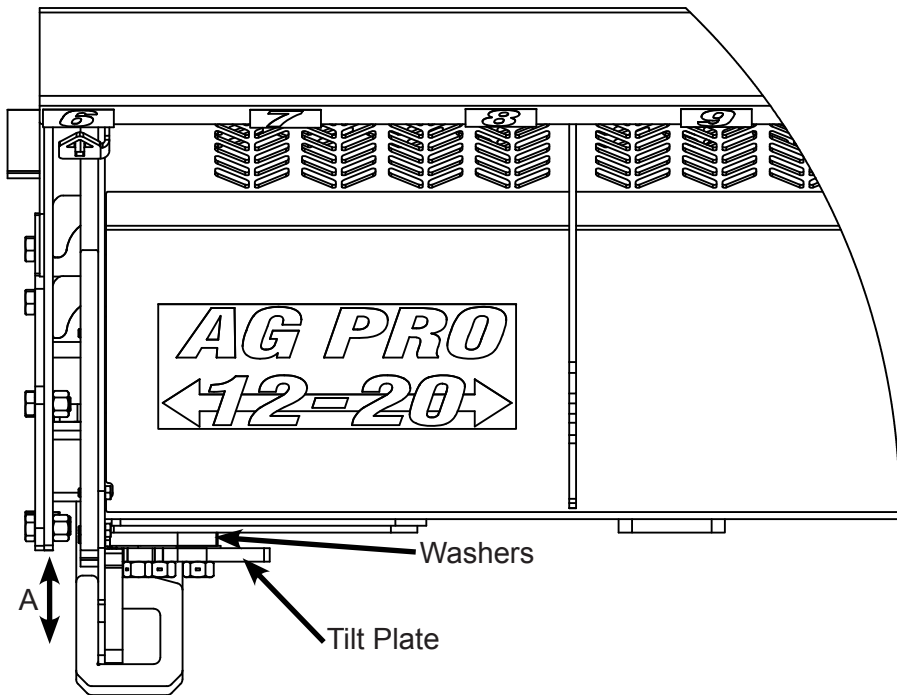

Figure 1
4. Add or remove washers as needed to adjust tilt-way clearance to have 1/16" - 1/8" of clearance in direction 'A' shown in Figure 1.